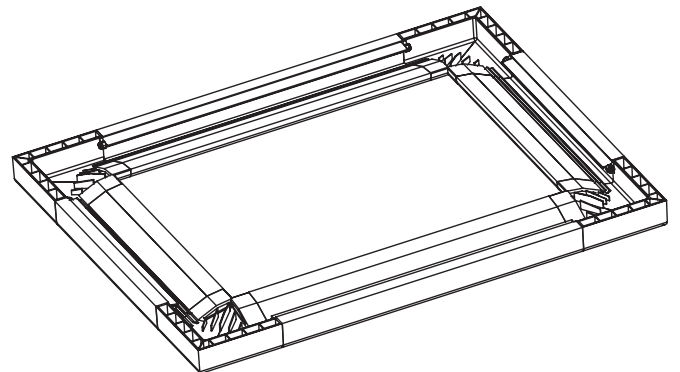

Figure 5
- ② Secure corner pieces to aluminum frame extrusions with four (4) remaining fasteners. Check to verify that all four (4) plastic corners are secure to aluminum frame extrusion lengths and all eight (8) fasteners are tight (see Fig. 5).